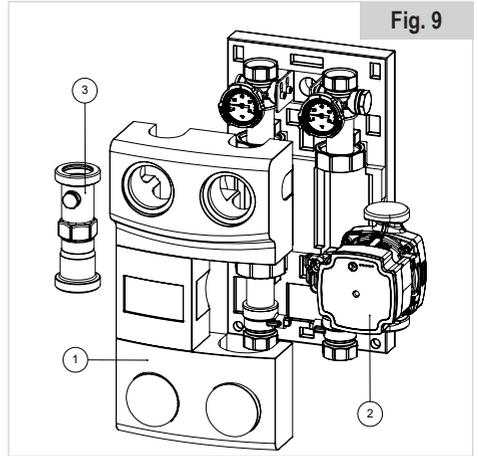

Fig. 9
- Remove the front shells (1), the circulator (2), and the connection pipe (3) (see Fig. 9).